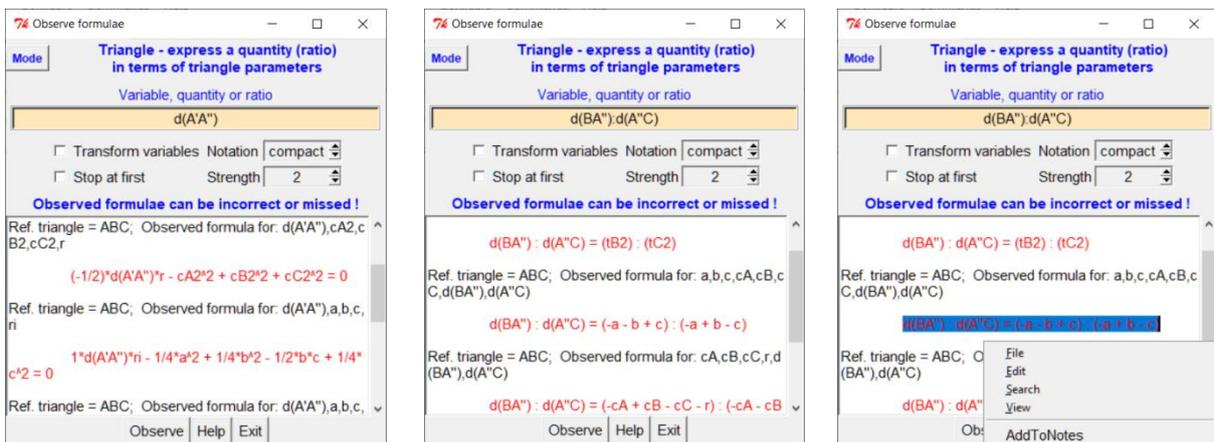

Figure 39
2. Activate the command *Command/Observe formulae/Triangle*. A form will appear. In the first entry write the considered (Figure 39, left) quantity or the ratio of two quantities (Figure 39, centre): in our case, $d(A'A'')$ for the first observation, and $d(BA''):d(A''C)$ for the second observation. Then click on the **Observe** button.
in Section 4.3.2. The highlighted part of the results in Figure 39 (left) and Figure 39 (right), for example, can be rewritten as